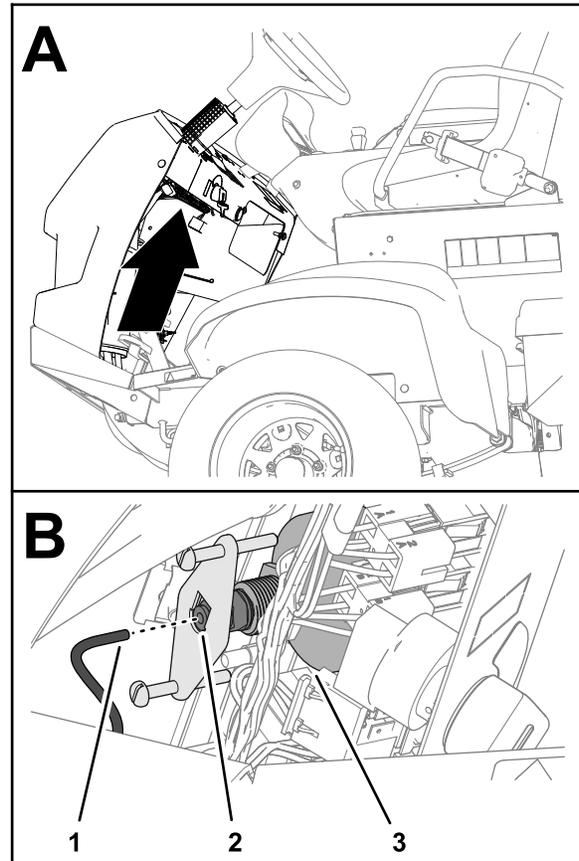

Figure 132
5. Remove the tube from the back of the pressure gauge and place the end of the tube into a container (Figure 132).